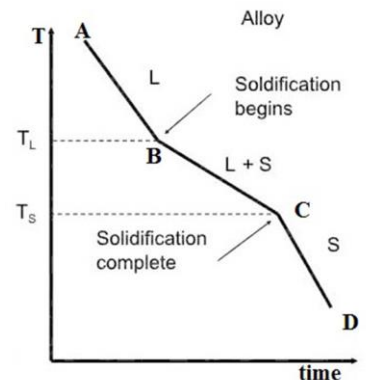

Figure 1: Cooling curve for solid solution
1. Define degrees of freedom and Gibbs Phase rule defining all the terms involved. Calculate the degrees of each section of the cooling curve ($P=1 \text{ atm} = \text{const}$) shown in Figure 1 and explain the result.